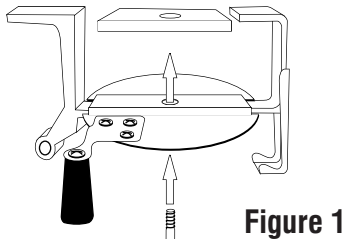

Figure 1
10. Next place the kettle Top (S) onto the brackets inside the popper unit, as shown in **Figure 1**. Slide the stirrer (T) through the hole in the kettle top and up into the hole in the top of the machine. Screw the stirrer clockwise into the gearbox until snug.